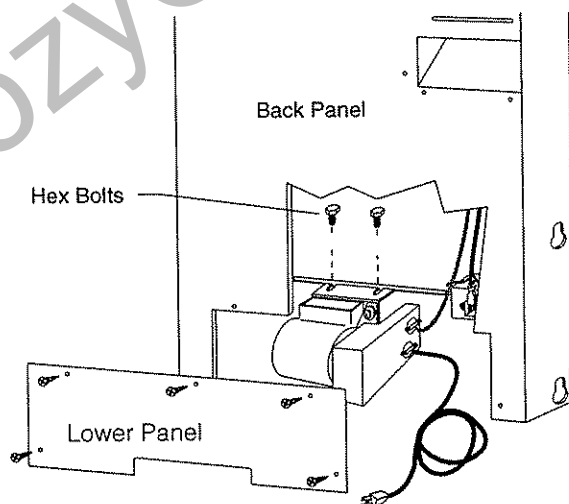

Figure 20. Install Blower.
5. Remove the panel at the bottom of the Rear Shroud and secure the blower assembly to the firebox base using the two hex bolts supplied with the kit. Fig. 20.